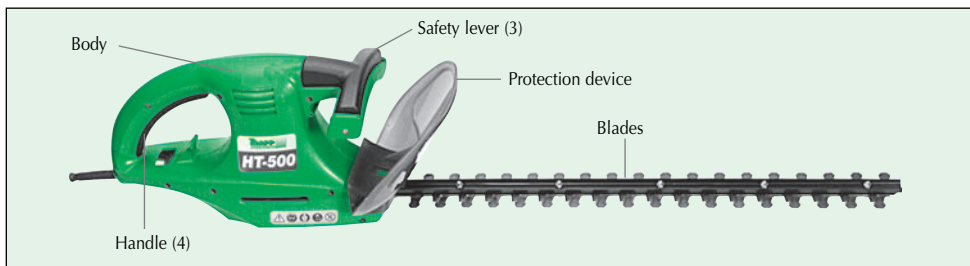

Fig. 1
- ✓ **Switching on** - Press front safety lever (3) and then the handle (4) (Fig. 1).
- ✓ **Switching off** - Either release the safety lever (3) or the handle (4) (Fig. 1).